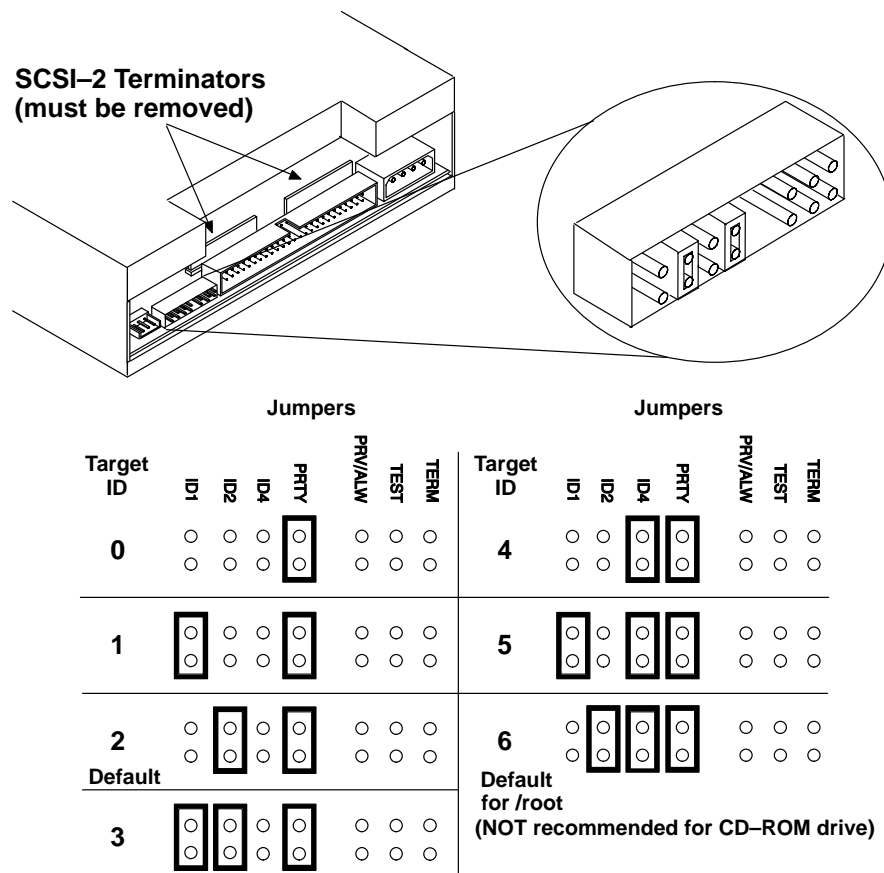

Figure 1-3. SCSI-2 Address Settings
The CD-ROM drive must have a unique SCSI-2 target address. The CD-ROM drive's jumpers are set, at the factory, to the SCSI-2 default address of 2 as shown in Figure 1-3. You must also ensure that the operating mode jumpers are set for correct drive operation. We ship the drive with the operating mode jumpers set to operate correctly with your system. We recommend you keep the default address if possible.
- 2.** Locate the address jumpers on the rear of the CD-ROM drive, as shown in Figure 1-3.
- 3.** Set the drive's SCSI-2 target address to an address that's not used by another SCSI-2 device. Use jumpers, as shown in Figure 1-3; use needlenose pliers to set the jumpers.